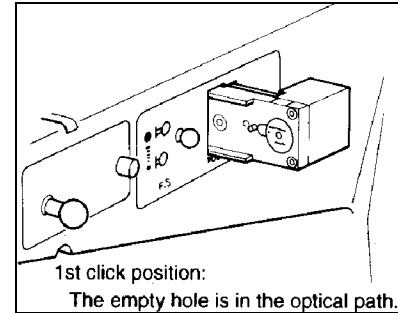

Figure 1-23
- To switch to bright/dark-field microscopy, pull the polarizer slider out (rightward) to the first click position. This brings the empty hole into the optical path. (Figure 1-23)